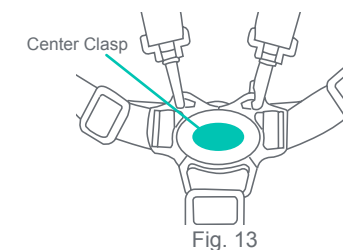

Fig. 13
- 13) • Push Button on Center Clasp, the two Harness Buckles will pop free (Fig. 13).